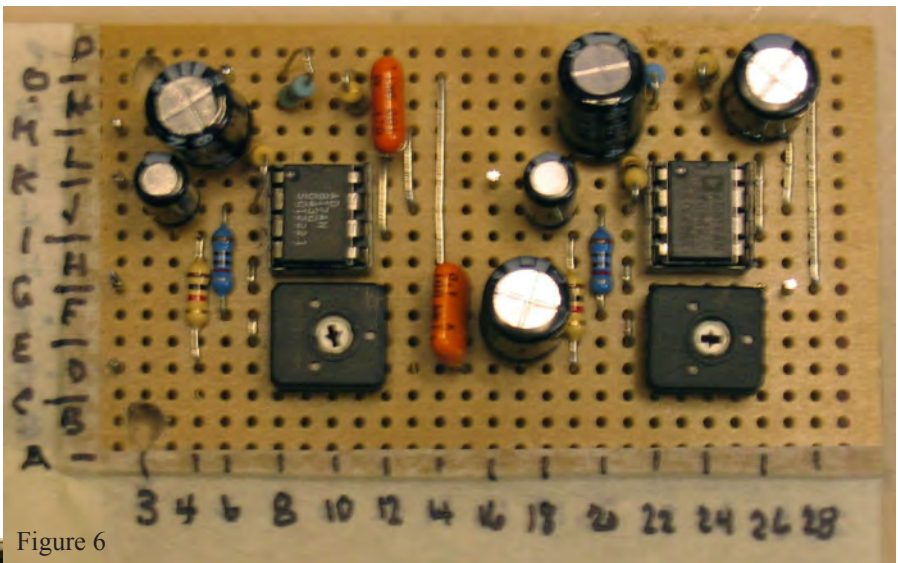
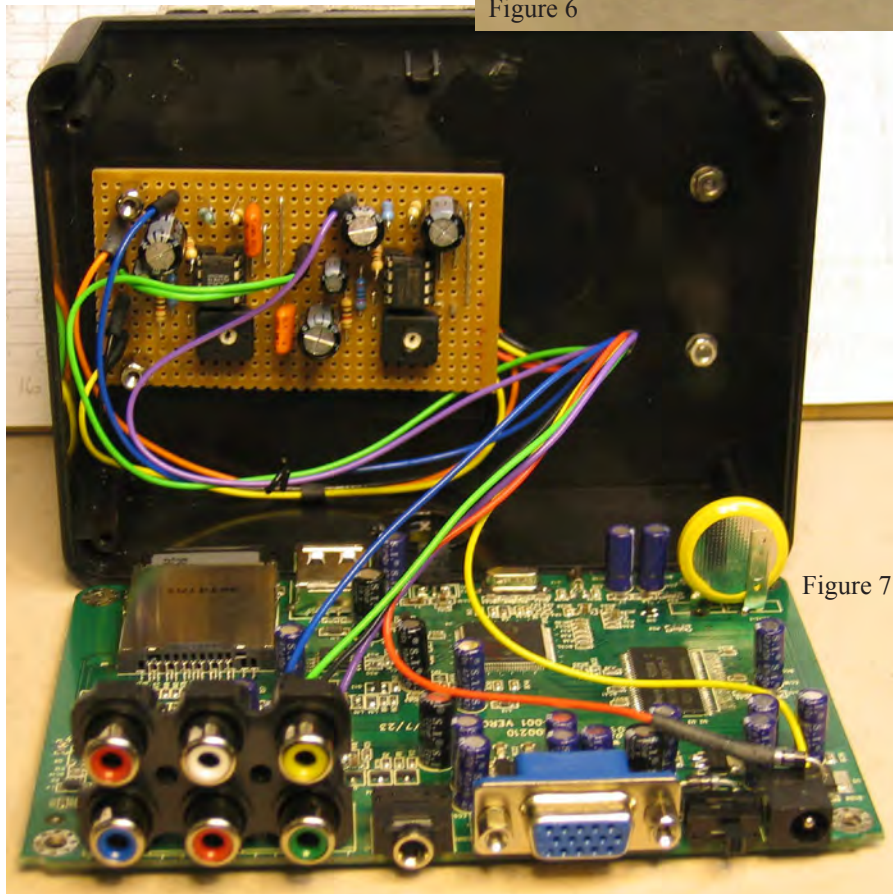

Figure 6
Figure 7
I used two AD817AN video op-amps. I prefer EL2020 op-amps but these are no longer available. I laid out the circuit on Veroboard as shown in Fig.5 ('x' is a cut in the track, a 'blob' is a soldered joint). The components were loaded as shown in Fig.6. I connected the Veroboard panel according to the circuit and fitted it inside the box, as shown in Fig.7, taking care not to foul any of the existing components.
- Fig. 6. Veroboard Panel
- Fig. 7. Veroboard fitted in Box